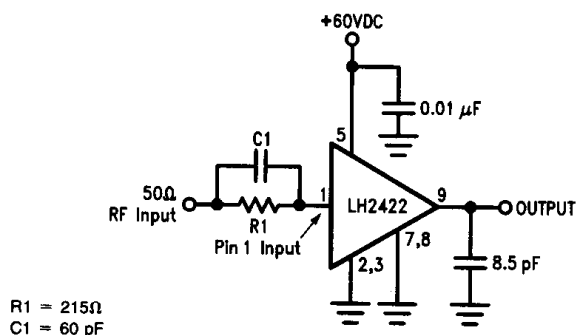

FIGURE 1. Typical AC Test Circuit
**Electrical Characteristics**  $V_{CC} = +60V$ ,  $R_1 = 215\Omega$ ,  $C_1 = 60\text{ pF}$ ,  $C_{LOAD} = 8.5\text{ pF}$ ,  $40\text{ V}_{p-p}$  swing with  $30\text{ V}_{DC}$  offset. See Figure 1.  $T_{CASE} = 25^\circ\text{C}$  unless otherwise noted (Note 1).
The test circuit in *Figure 1* is driven from a fast pulse generator with a  $50\Omega$  output impedance. The cable between the generator and DUT should be of minimum length. The generator's DC level should be about 1.55V. Use a FET probe with X100 attenuation when using an oscilloscope. Total load capacitance (including probe capacitance) should be limited to  $8.5\text{ pF}$ .